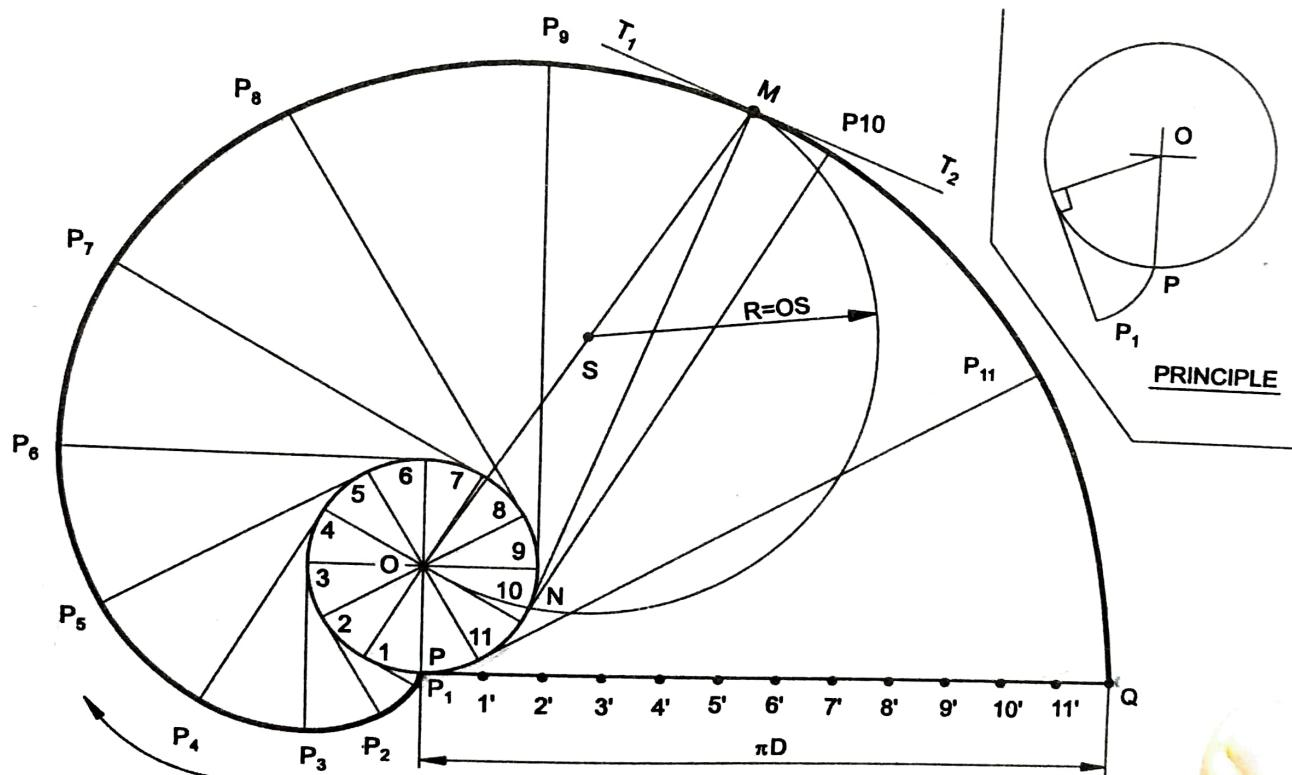

Figure 4.15
**Solution:** (Refer Fig. 4.15)